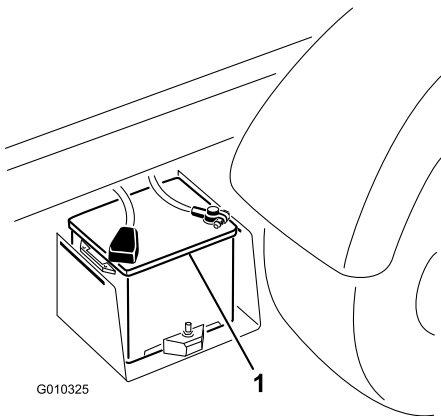

Figure 6
5. When the battery is charged, disconnect the charger from the electrical outlet and battery posts (Figure 6).